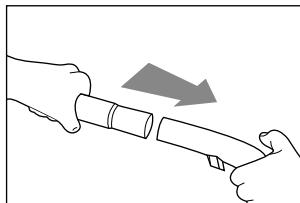

Fig. 3
- Insert the telescopic tube (G) into the handle (Fig. 3).